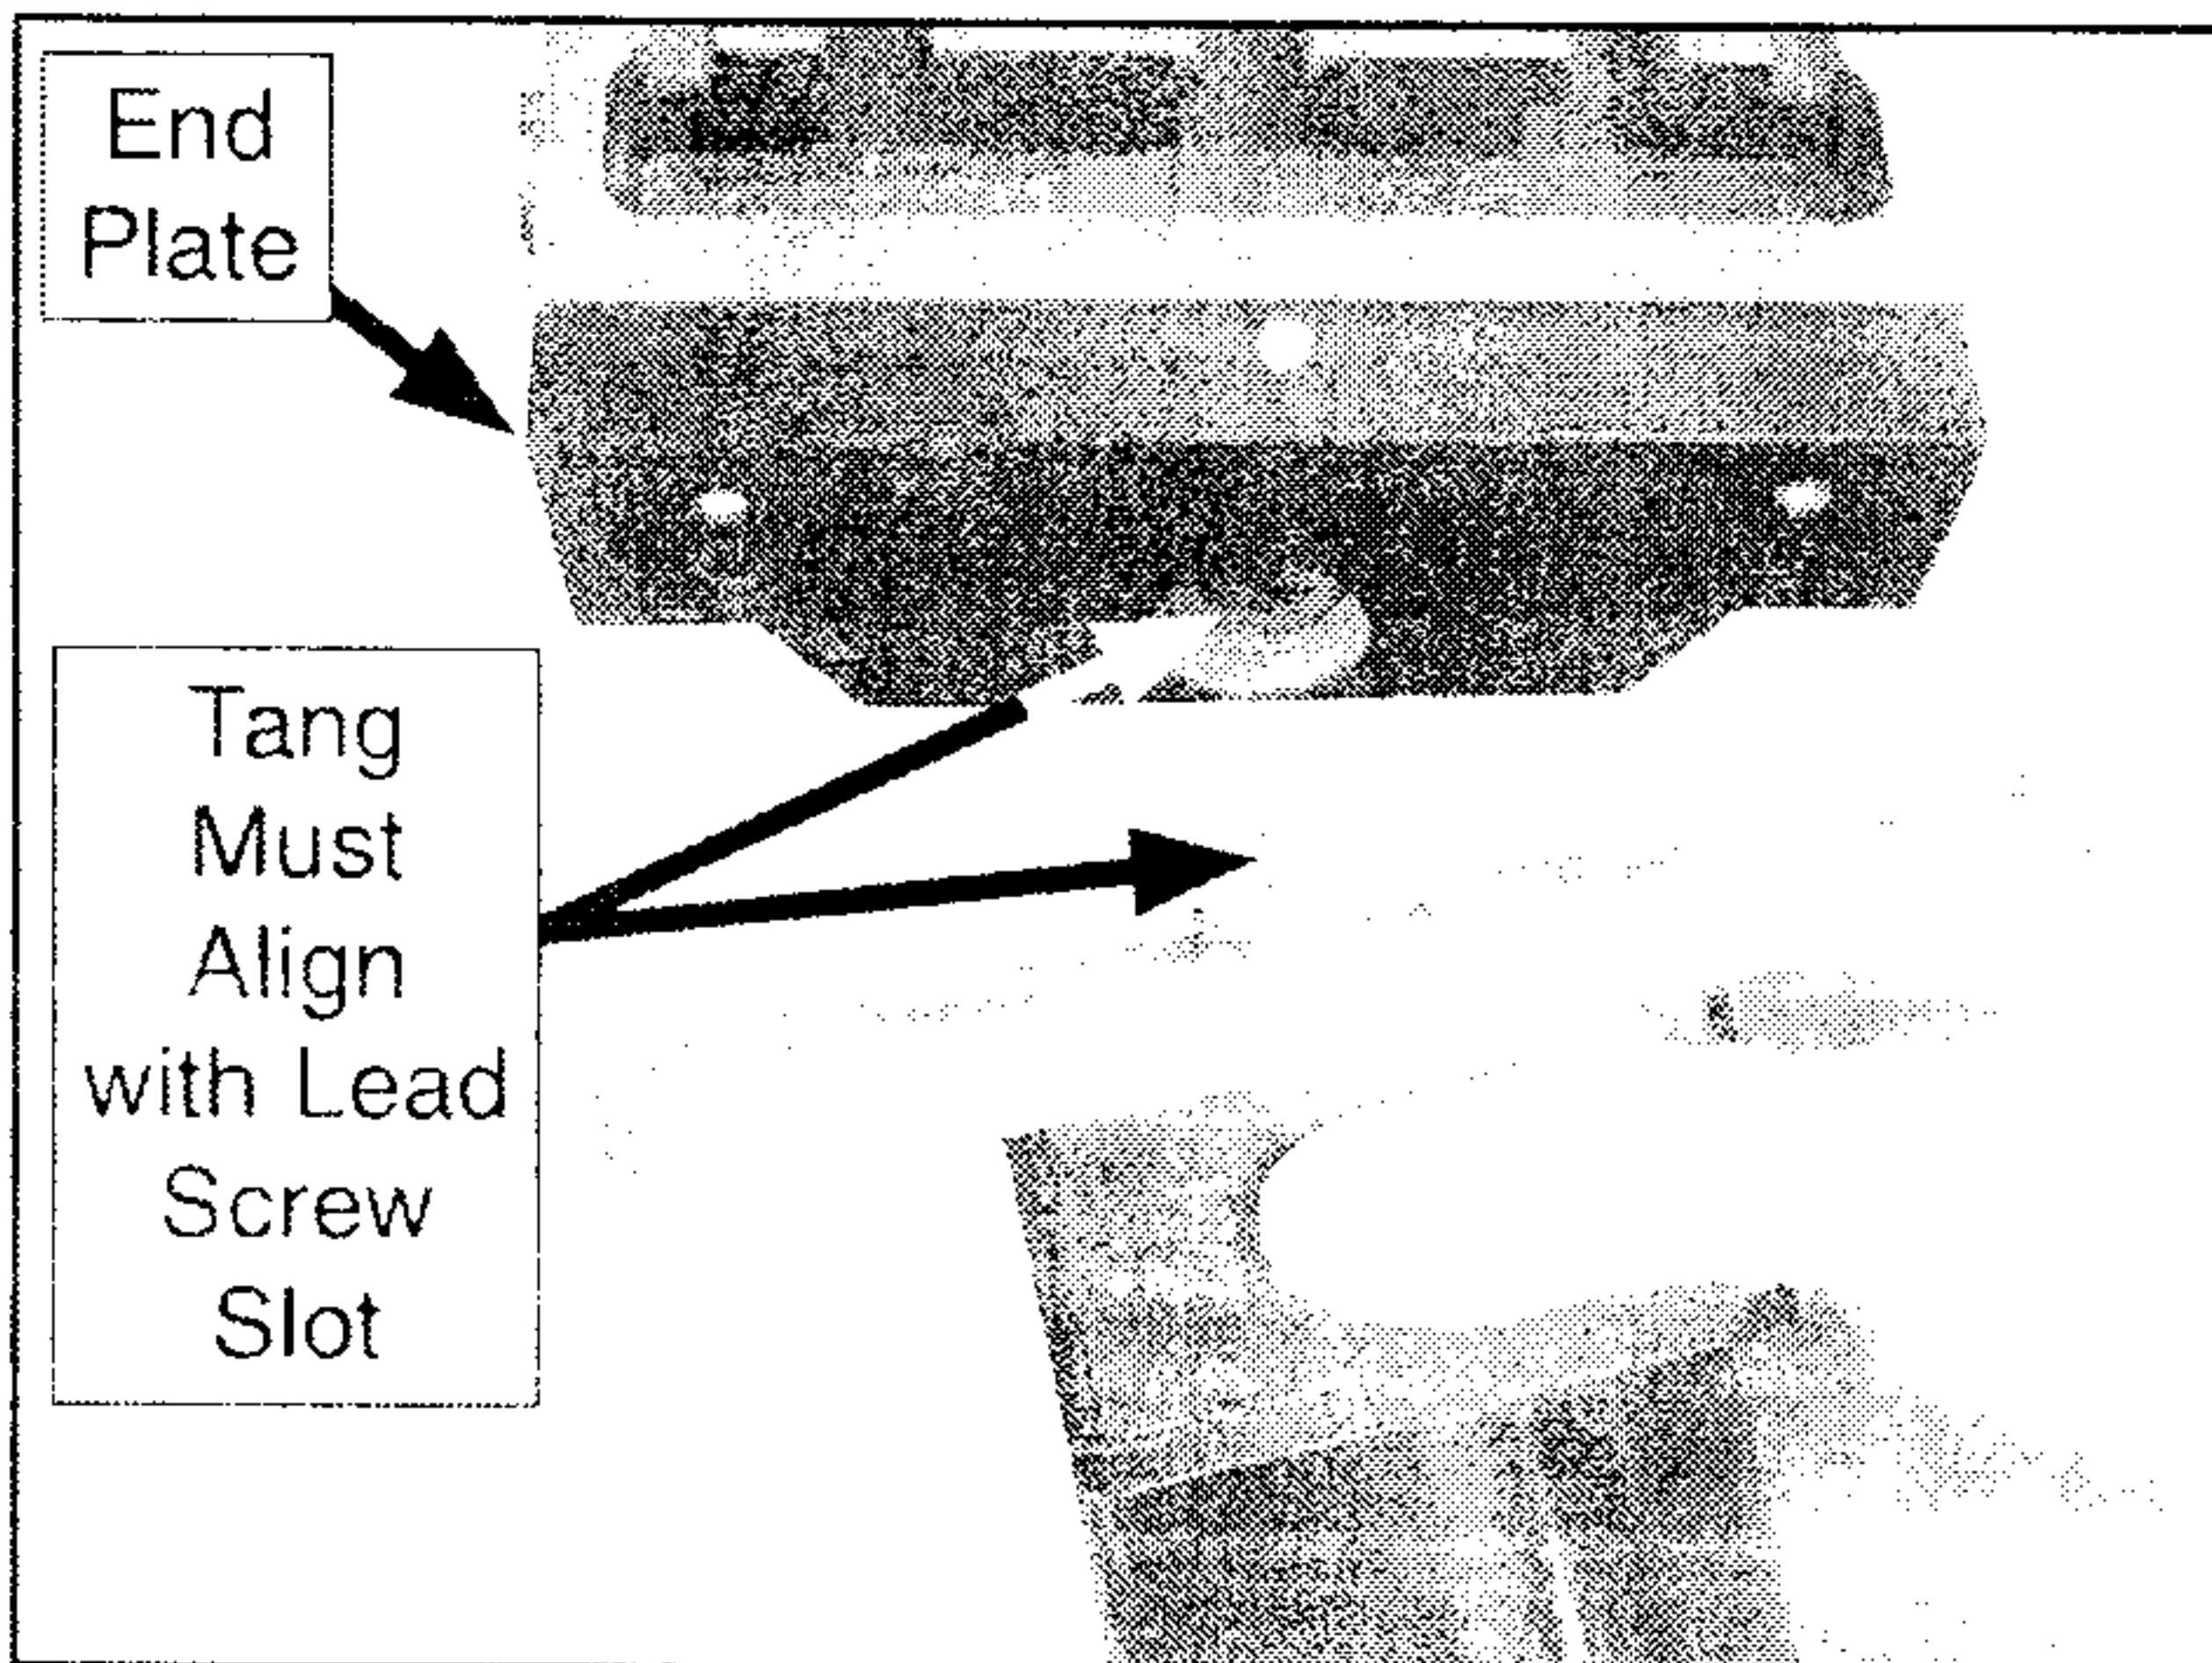

Figure 13. Motor installation.
19. Rotate the power feed drive tang so it aligns with the lead screw slot (Figure 13).